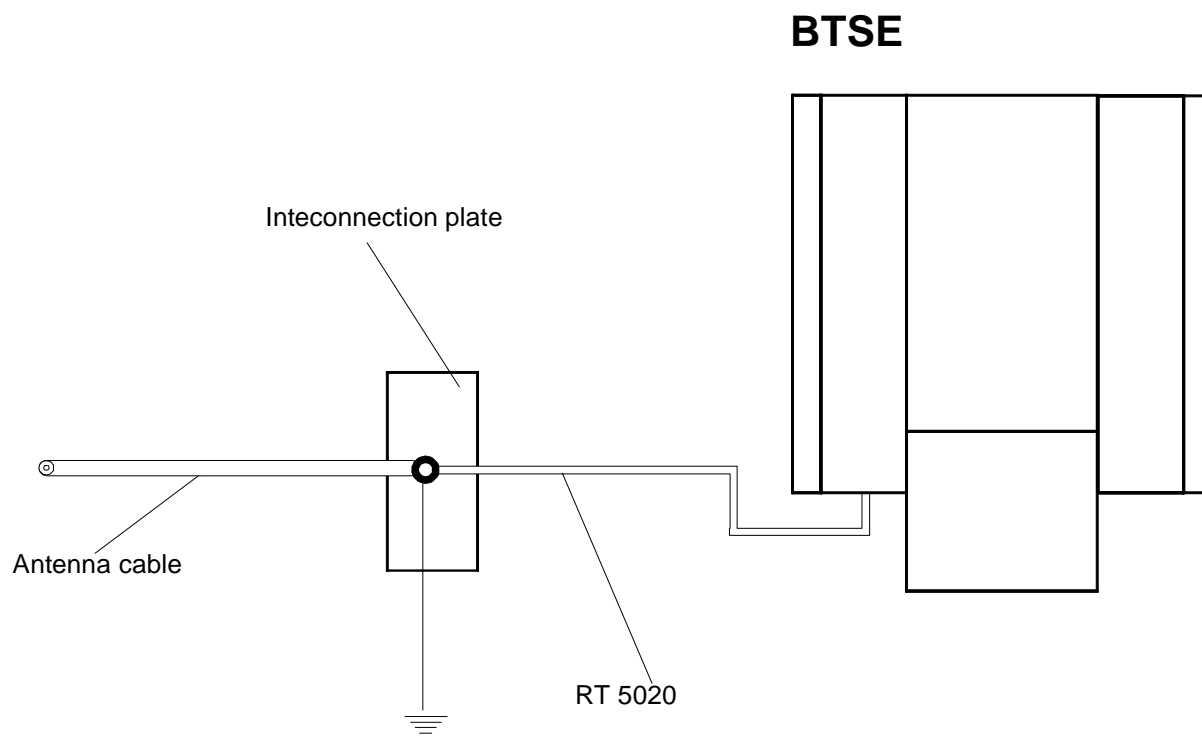

Fig. 3.24. Interconnection Plate
the site. The cable pass plate (ref. 11) is shown in fig. 3.24.